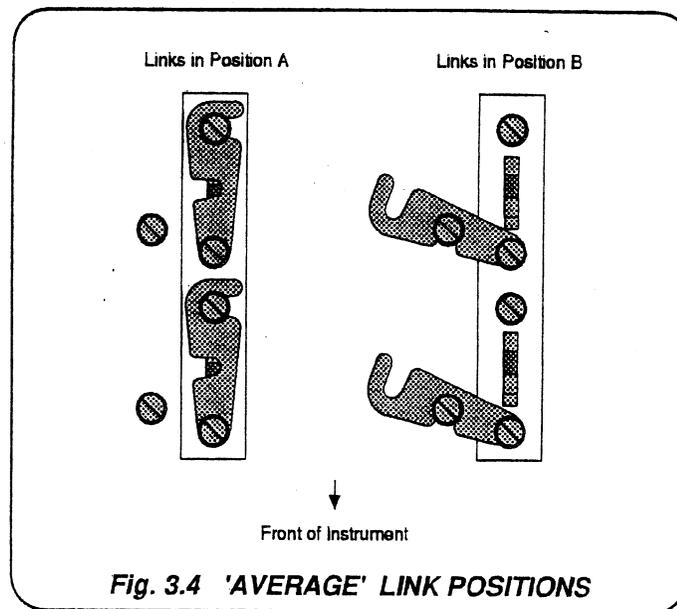

Fig. 3.4 'AVERAGE' LINK POSITIONS
3. For the cell that you wish to isolate, undo each of the six link-retaining screws by two turns - see Fig 3.4.
4. Rotate the two links from position A to position B as shown in Fig 3.4.
4. For the cell that you wish to reconnect, undo each of the six link-retaining screws by two turns - see Fig 3.4.
5. Rotate the two links from position **B** to position **A** as shown in Fig 3.4.